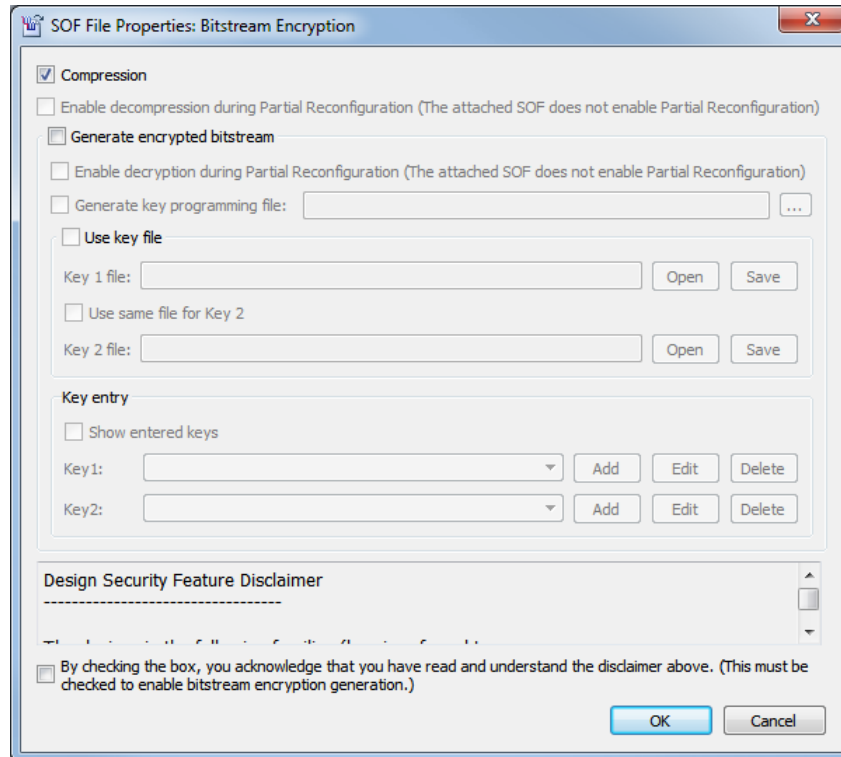

Figure 40. Enabling file compression.
6. Click and highlight the newly added .sof file in the list, then select `Properties`. You should see the window shown in Figure 40. Enable file compression by ticking the checkbox as shown, then press OK.